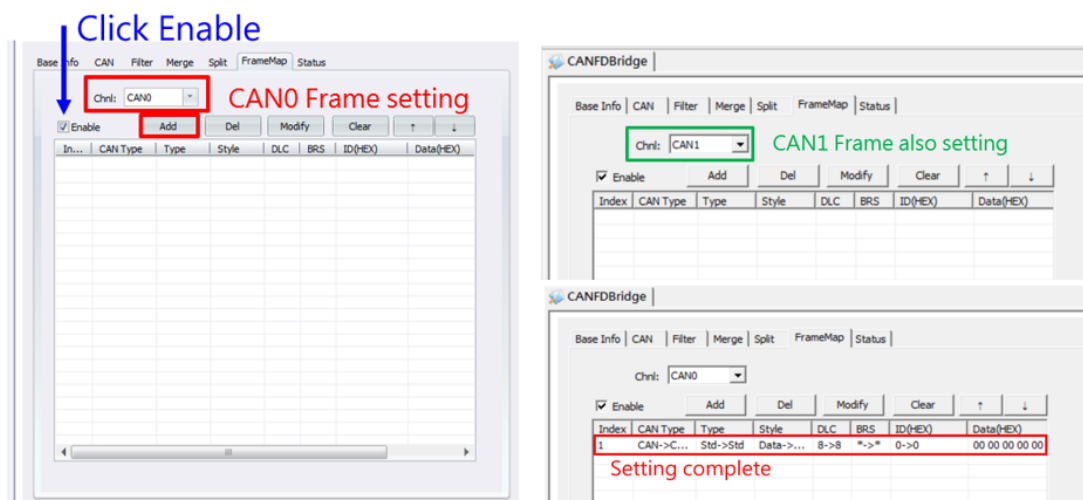
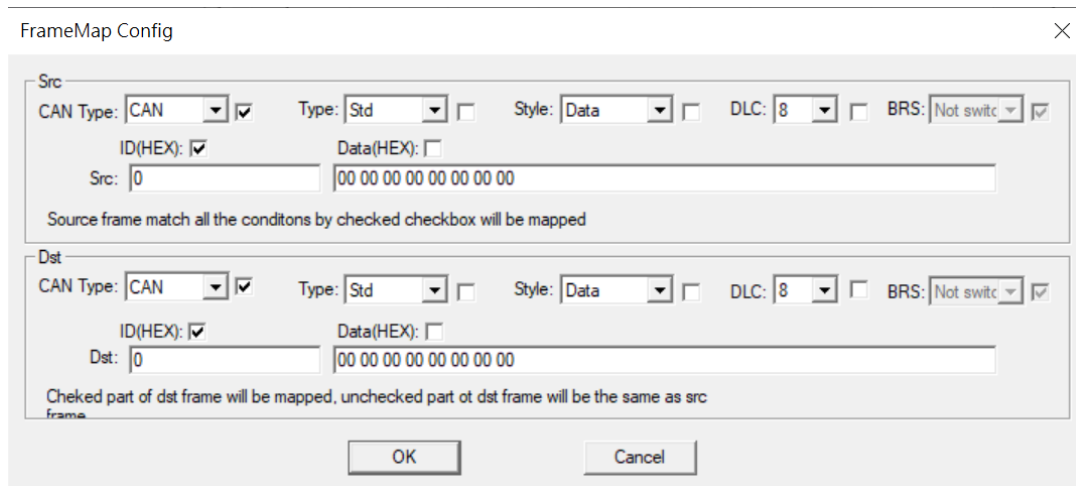

Figure F-13 Setting Up FrameMap
Figure F-14 Setting Up Frame Rule
- (3) Perform the setup of FrameMap, refer to step 6 below and Figure F-13.
- (4) When the above settings are done, click “Config Device” to save the settings into the device.
- (5) Click “Save Config” to save the setting file to the Electronic Load.
Check Enable and select CAN0 for Chnl. Click Add to start the setting (as Figure F-14 shows.) CAN1 must be set too, see Figure F-13.
The rule for adding a new Frame, taking the unconditional transmission of any packet to CAN1 as an example (it can be used in all situations), just check CAN to indicate that when CAN0 receives any CAN packet, it will be directly thrown to CAN1 for output. Click OK to add the specifications, as shown in Figure F-14.